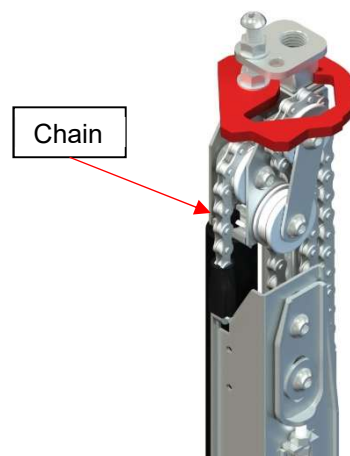

Figure 23
8) Inspect the posts chains for signs of deterioration. If this is the case, please call your local COVANA dealer immediately. (Figure 23)